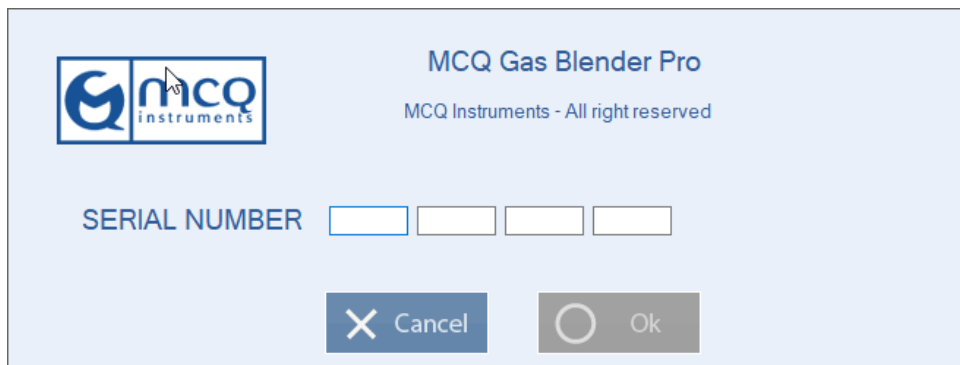

Figure 5-9
2. Insert the KEY PRO SOFTWARE provided in the USB Pen inside the package (Figure 5-9)